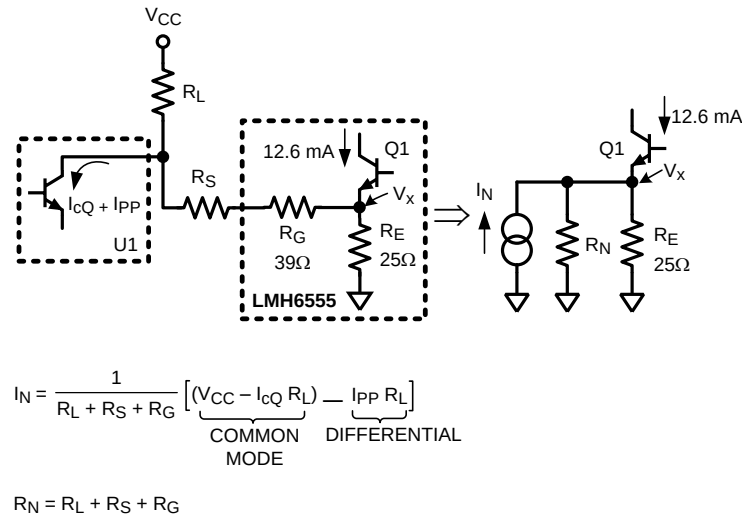

Figure 35. Norton Equivalent of the Input Circuitry Tied to Q1 within the LMH6555 in Figure 34
- b. Find the value of R_S to get the proper swing at the output (800 mV_{PP}). To do so, convert the input stage into its Norton equivalent as shown in Figure 35
The " V_x " node voltage within the LMH6555 (see Figure 35) would need to be calculated. Use the Common Mode component of the Norton equivalent source from above, and write the KCL at the V_x node as follows: